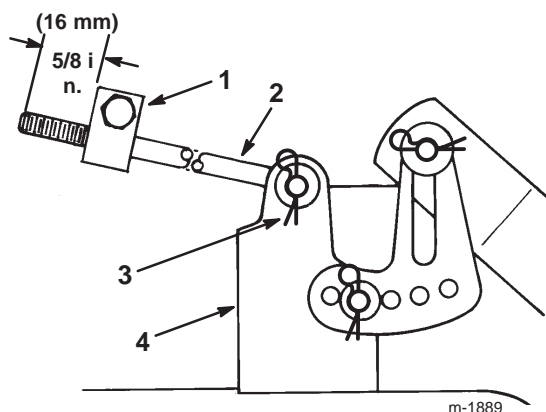

Figure 49
9. Measure the length of the rod extending out of the front of the adjusting block on the sides of the chassis (Fig. 49). If the rod length is not 5/8 in. (16 mm), remove the hairpin cotter and washer from the end of the rod (Fig. 49) and turn the rod until it extends out 5/8 in. (16 mm).